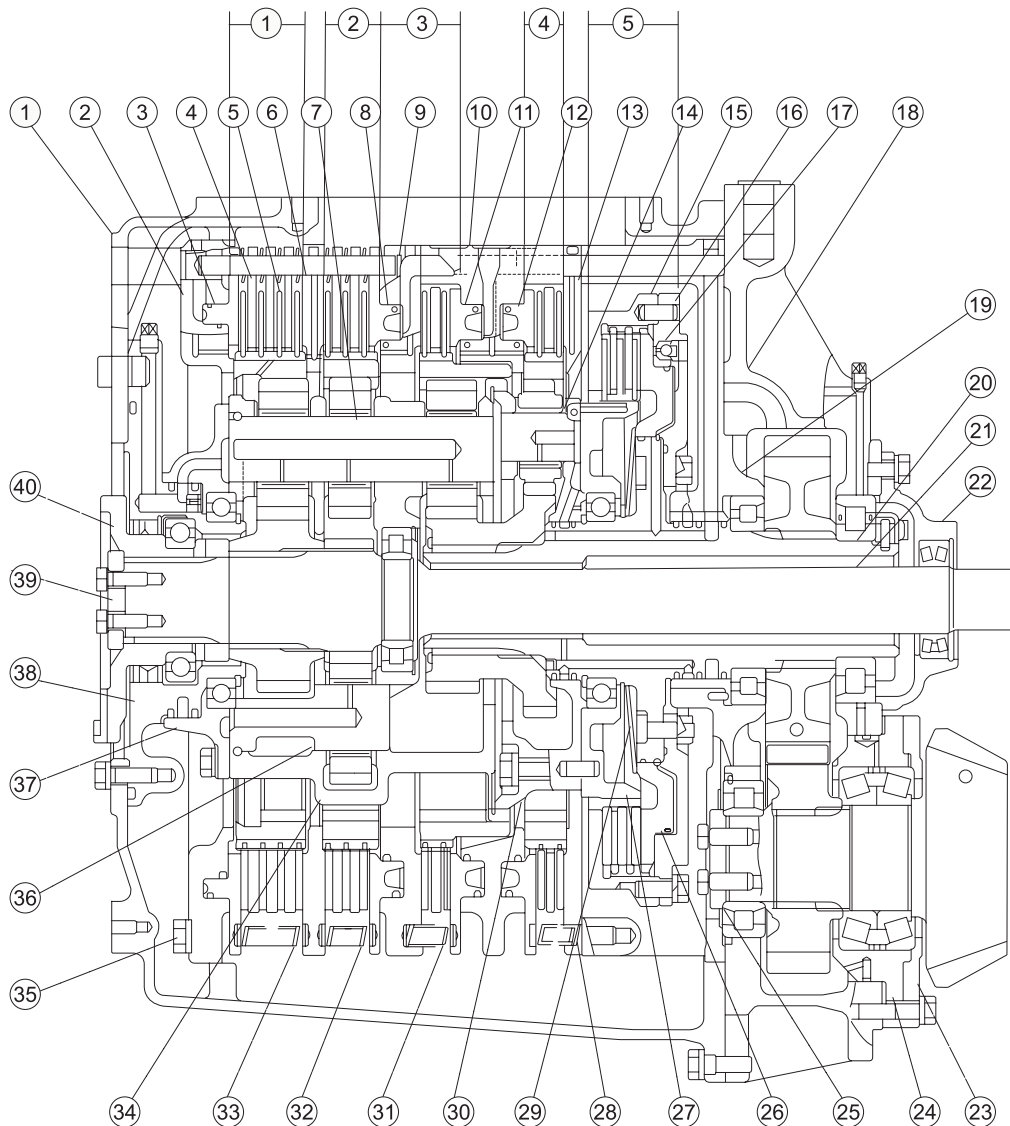

Figure 3-14
3.4 TRANSMISSION CASE (FIGURE 3-14)